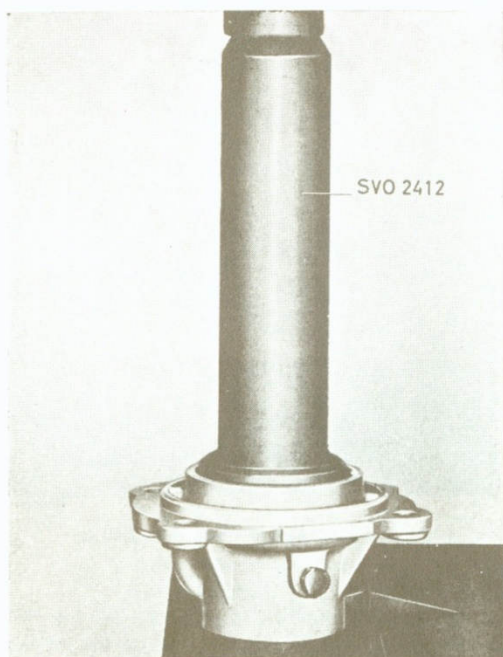

Fig. 3-22. Fitting ball bearing in rear cover
1. Press the ball bearing (15, illustration III-A) into the rear cover (17) with drift SVO 2412, Fig. 3-22 and fit the locking ring. There are different thicknesses of locking ring so select one which completely fills the locking ring groove.